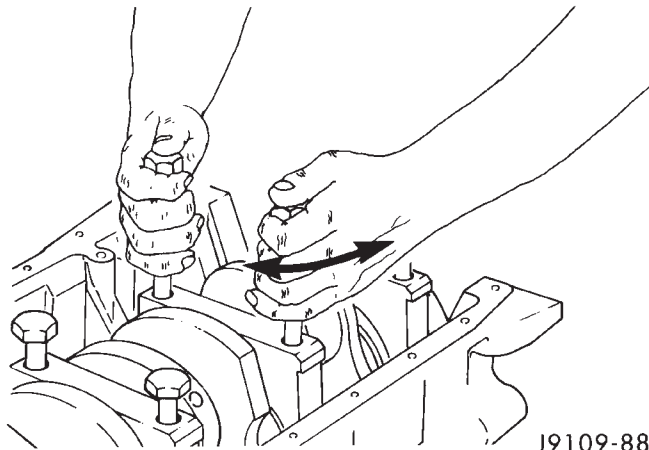

Fig. 82 Main Bearing Cap Removal
- (5) Use two of the main bearing cap bolts to wiggle the main cap loose, being careful not to damage the bolt threads (Fig. 82). Remove the caps.